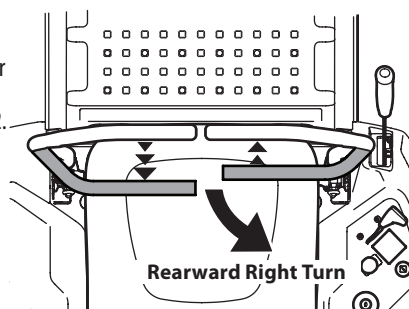

Figure 32
2. To turn to the right while traveling in reverse, move the right drive control lever forward of the left drive control lever. See Figure 32.